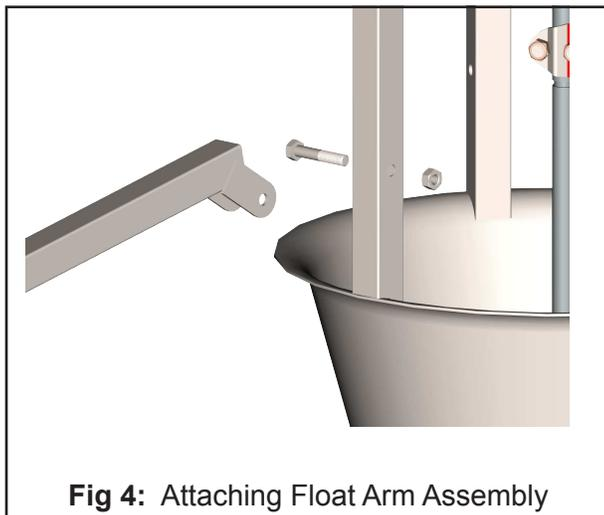

Fig 4: Attaching Float Arm Assembly
STEP 3: Attach the Float Arm Assembly to the Dish Assembly with provided bolts and nylock nuts. (See Figure 4 & 5)